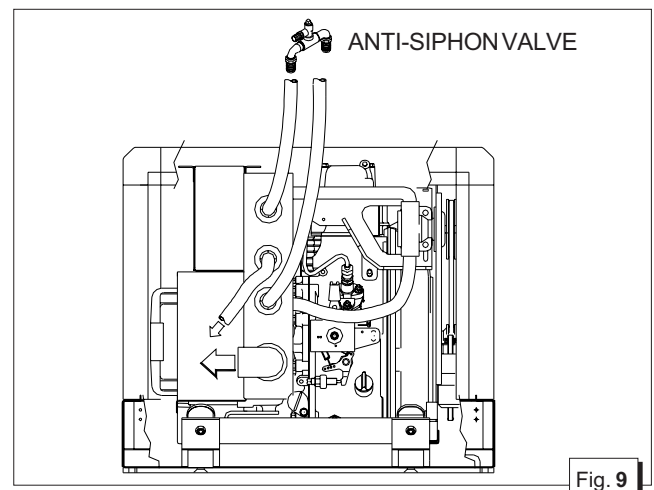

Fig. 9
*The box already includes 2 holes to connect the anti-siphon valve (fig. 9).*